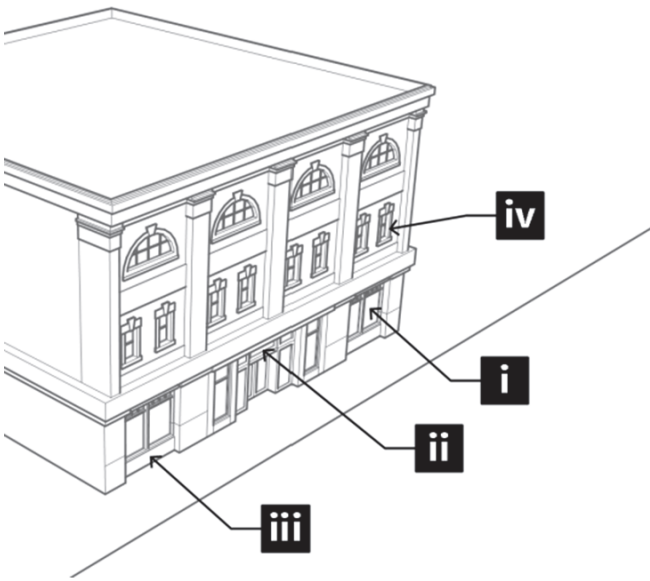

Figure 040-29: Commercial-Oriented Building Design
- e. *Floor Distinctions.* Buildings shall have a clearly articulated architectural distinction between the street level and upper floors, expressed through detailing, changes in materials, and fenestration. One (1) or more belt courses shall be used to help distinguish between floors. **Belt courses shall be a minimum 4-inch depth**
- 2. New commercial storefront buildings shall incorporate the following character-defining elements: (Figure 040-29)